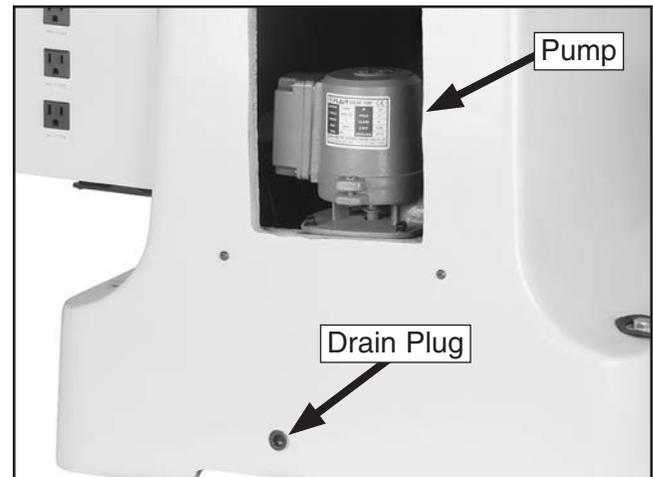

Figure 58. Coolant reservoir pump and drain plug.
2. Place a catch pan under the reservoir drain plug at the rear of the column (see **Figure 58**), remove the plug, and allow the coolant to completely drain.